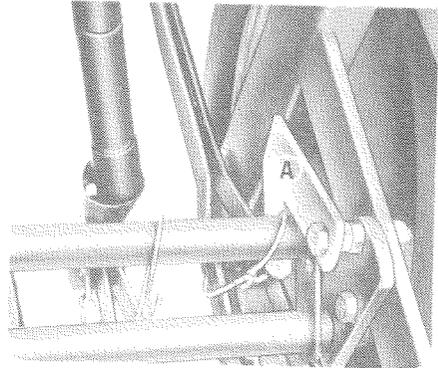

Fig. 3
- Disengage the hook A (fig. 3) for the coulters lifter.